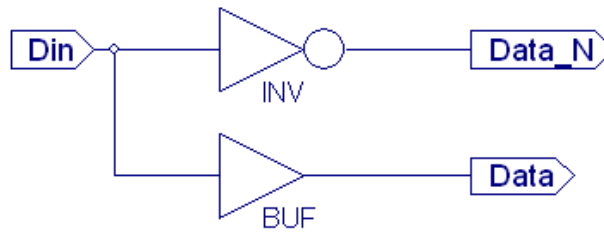

Figure 9
5. Create a new schematic similar to Figure 9 and add it to your project.